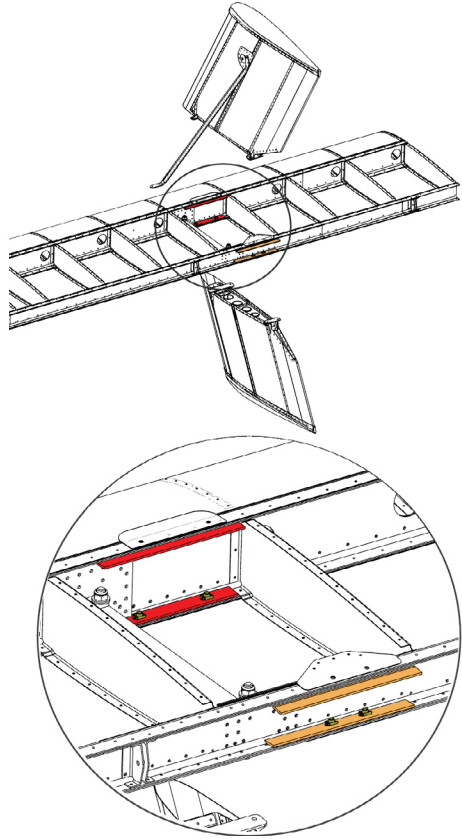

Figure 3
4. Remove the upper and lower spar strap (10A12001-074) from the forward horizontal stabilizer spar by drilling out the rivets holding it in place. See the parts highlighted in red in Figure 3.